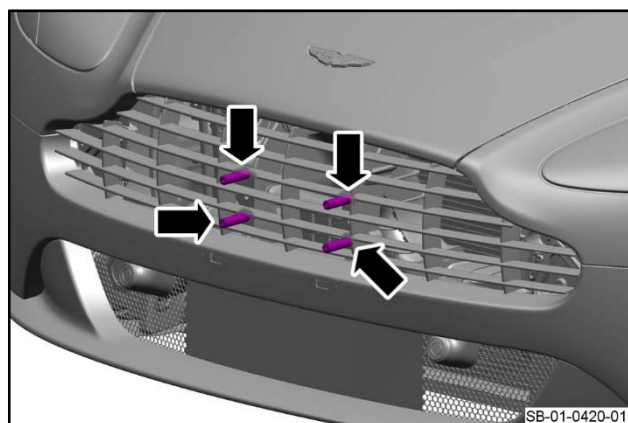

Figure 1
1. Install and torque the four bolster studs to the front bumper armature to 23 Nm (refer to Figure 1).